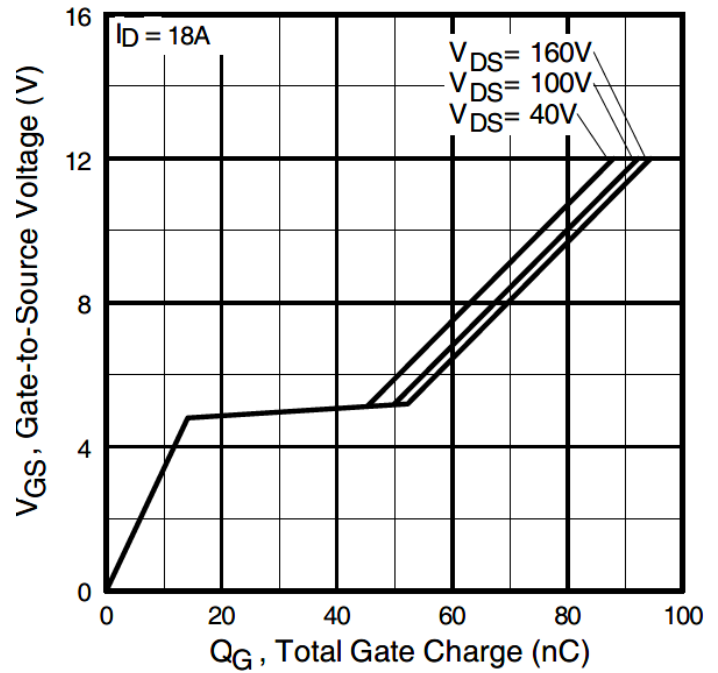

Fig 6. Typical Gate Charge vs. Gate-to-Source Voltage
| Q_{gd} | Gate-to-Drain Charge | — | — | 57 | | $V_{GS} = 10V$, See Fig.6 and 13 ④ |